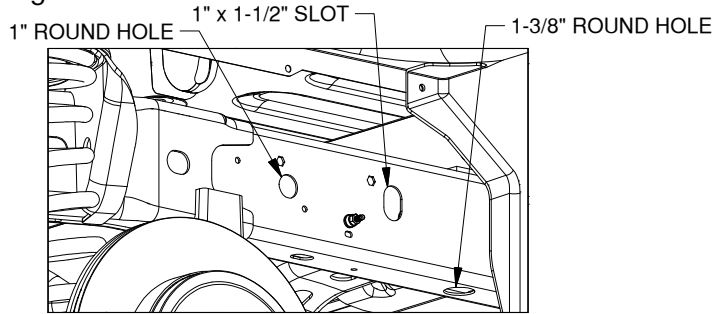

Figure B1: View looking into driver side wheel well.
1. **Prepare for hardware installation.** Start by locating four 1/2" x 1-1/2" carriage bolts, four locking straps, two circle frame spacers, two oval frame spacers, four bolt retainers, and four fish wires. Identify the 1" round hole, the 1" x 1-1/2" slot on the outside of the frame and the 1-3/8" hole on the bottom of the frame behind the axle where the hardware will mount, see Figure B1.
4. **Repeat for the rest of the holes.** Using the method in Steps 2 and 3 install the three remaining bolts into the frame. Refer to Figure B1 for hole and slot locations.